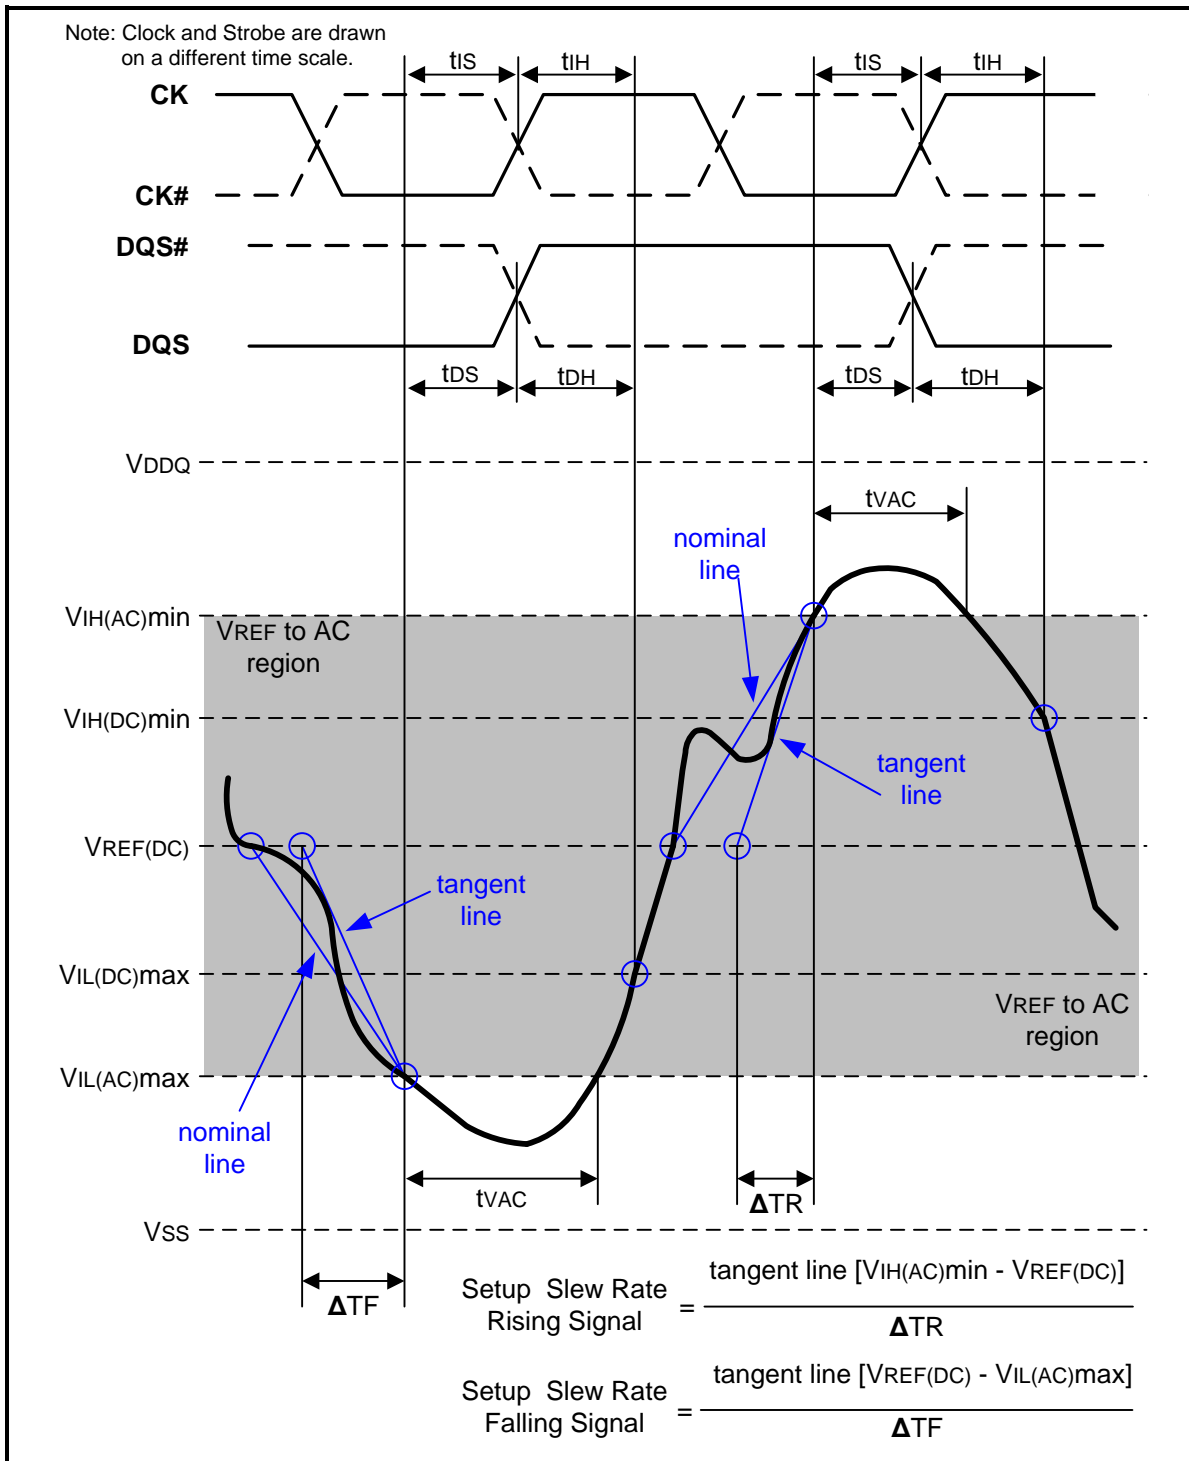

Figure 109 – Illustration of tangent line for setup time tDS (for DQ with respect to strobe) and tIS (for ADD/CMD with respect to clock)
Setup ( $t_{IS}$ ) nominal slew rate for a rising signal is defined as the slew rate between the last crossing of  $V_{REF(DC)}$  and the first crossing of  $V_{IH(AC)min}$ . Setup ( $t_{IS}$ ) nominal slew rate for a falling signal is defined as the slew rate between the last crossing of  $V_{REF(DC)}$  and the first crossing of  $V_{IL(AC)max}$ . If the actual signal is always earlier than the nominal slew rate line between shaded 'VREF(DC) to AC region', use nominal slew rate for derating value (see Figure 107). If the actual signal is later than the nominal slew rate line anywhere between shaded 'VREF(DC) to AC region', the slew rate of a tangent line to the actual signal from the AC level to DC level is used for derating value (see Figure 109).
Setup (tDS) nominal slew rate for a rising signal is defined as the slew rate between the last crossing of VREF(DC) and the first crossing of VIH(AC)min. Setup (tDS) nominal slew rate for a falling signal is defined as the slew rate between the last crossing of VREF(DC) and the first crossing of VIL(AC)max (see Figure 107). If the actual signal is always earlier than the nominal slew rate line between shaded 'VREF(DC) to AC region', use nominal slew rate for derating value. If the actual signal is later than the nominal slew rate line anywhere between shaded 'VREF(DC) to AC region', the slew rate of a tangent line to the actual signal from the AC level to DC level is used for derating value (see Figure 109).